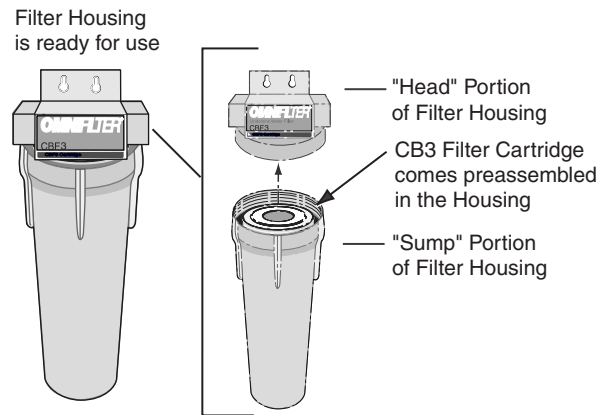

Figure 6
9. The filter cartridge comes preassembled in the filter housing. See Figure 6 for the filter cartridge components.